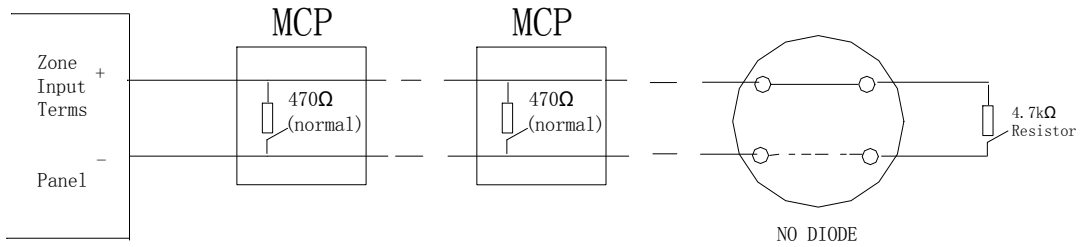

Fig.5.6.2a
- (1) Connect all manual call points in front of the detectors and a 4.7kΩ resistor at the end of the loop (Fig.5.6.2a).